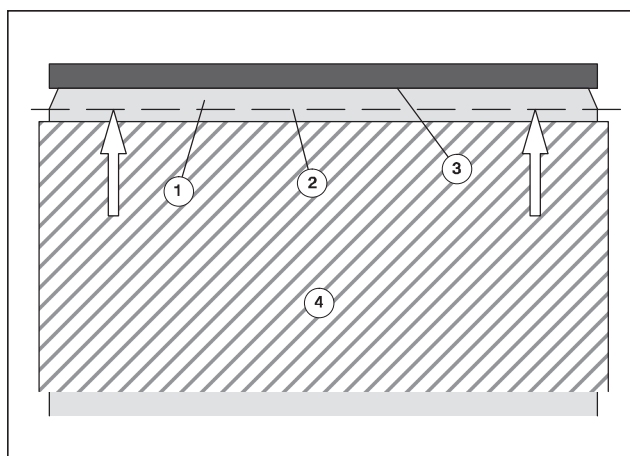

Fig. 27 Inserting the underlay sheets
1. Place new or additional packing sheets (Fig. 27/4, hatched) on the blanket (Fig. 27/1),
2. Aligning the front edges of the packing sheets along the dashed line (Fig. 27/2) (start of the taper). The packing sheets must **not** be placed against the pinch rail (Fig. 27/3).
4. Hold the blanket with the packing sheets slightly taut, rotating the press forwards with the crank handle until the rear clamp shaft (Fig. 27/1) is accessible.
5. Insert the pinch rail on O.S. in the groove of the rear clamp shaft (Fig. 27/1), pressing lightly against the spring towards O.S.